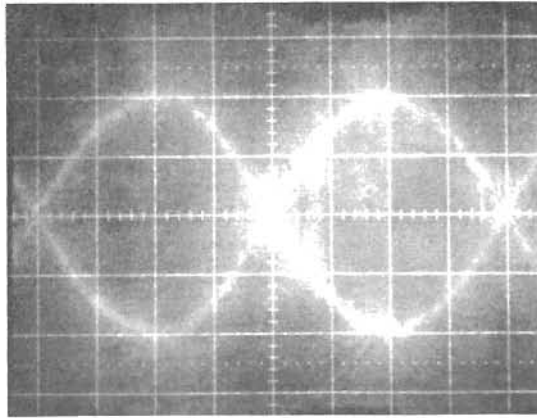

Figure 5-6. 100 TPI HEAD PROPERLY ALIGNED
7. A. 100 tpi alignment description (using Alignment Cartridge P/N 70306). If the head being checked is properly aligned, the oscilloscope presentation will be approximately as shown in Figure 5-6, with the time between zero crossings for both loops being equal.